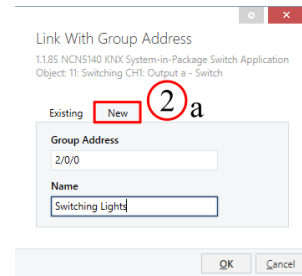

Figure 28. Linking the Group Object with a Group Address
To assign a new group address to the switching object, right click on it (20) and select *Link With...* (1a). This will open a new window as shown in figure 28.